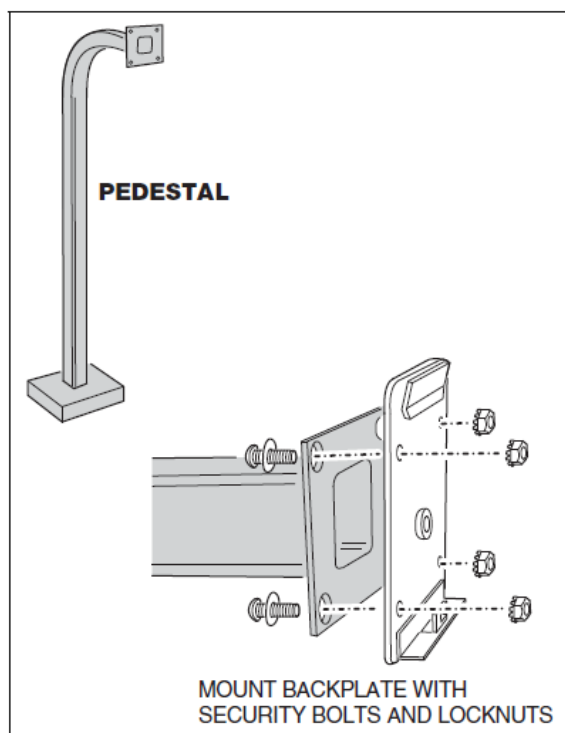

Figure 3. Pedestal Mounting Keypad Backplate
- Use four security bolts and locking nuts to secure the keypad’s backplate to the pedestal (see Figure 3).